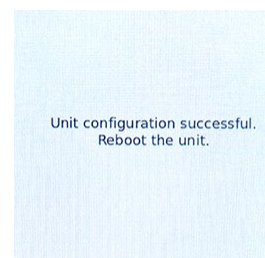

Figure 21
- l) The controller displays "Unit Reboot the unit." (see Figure 21)